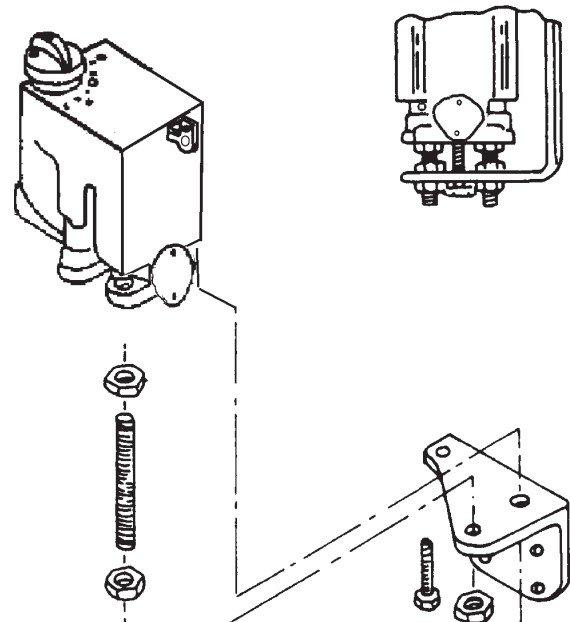

Fig. 10
1. Fit and lightly secure oil control valve support bracket to cooker LH side panel. See Fig.10. Using a spirit level, check that the horizontal face of the support bracket is level in all directions, then tighten and secure bracket fixing screws.
- Now turn the cooker oil control valve knob C on the oil control valve to No. 6 (High Fire) and check rate - AGAIN ALLOW TIME AS ABOVE FOR THE OIL RATE TO SETTLE. If incorrect adjust high fire rate by turning the high fire adjusting screw as shown on the cover plate. See Fig. 10. This should be 12cc/min for the boiler model or 8.5 to 9.0 cc/min for the non-boiler model. ALLOW TIME FOR RATE TO SETTLE.